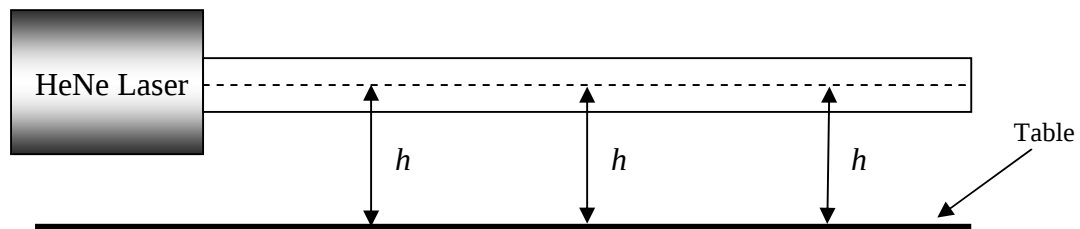

Figure 6: Illustration of Laser Alignment with Respect to the Optical Table.
- Now confirm your alignment by moving the stick in the horizontal direction to insure that the laser hits the stick at the same height h regardless of distance from the laser (see Figure 6).